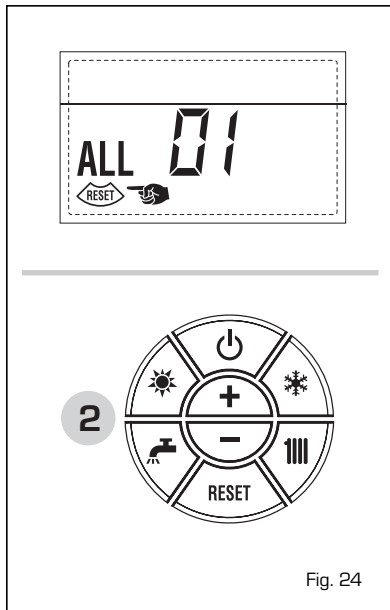

Fig. 24
**- LOW WATER PRESSURE ANOMALY ALARM 02** (fig. 24/a)